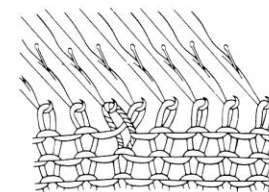

Fig.53-2
- Pick up a loop from below the previous stitch and hang it on this empty needle. (Fig.53-2)